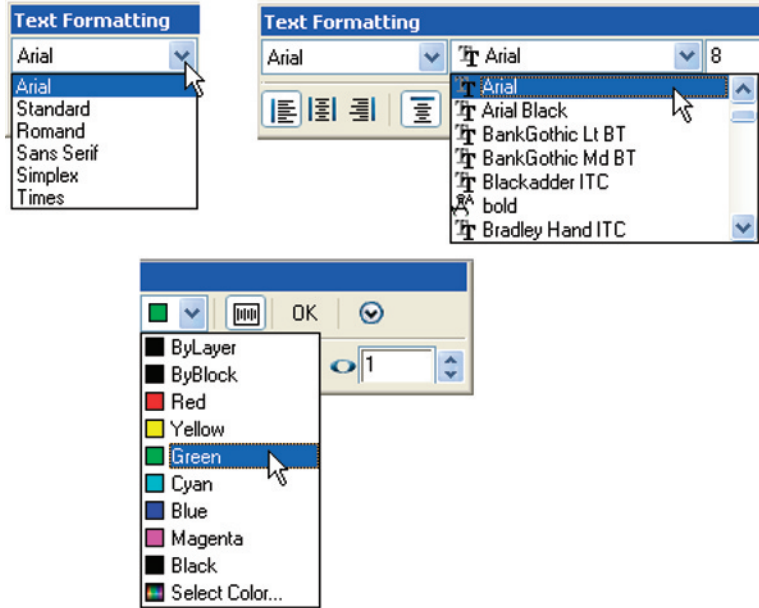

Fig. 6.36 The popups from the **Text Formatting** dialog
2. Changes can be made to various aspects of the text being *entered* by making choices from the various popup lists in the **Text Formatting** dialog. These popups are shown in Fig. 6.36.